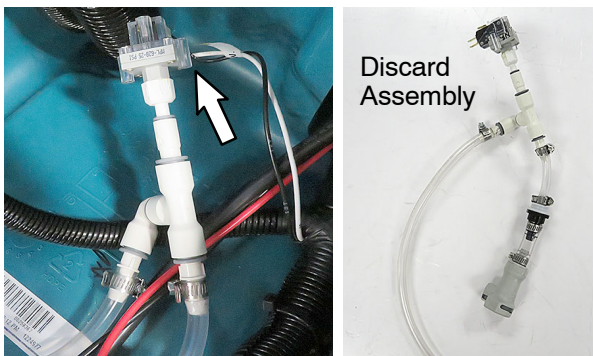

Fig. 6
8. Disconnect the wires from the pressure switch and discard the old water delivery assembly (Figure 6).